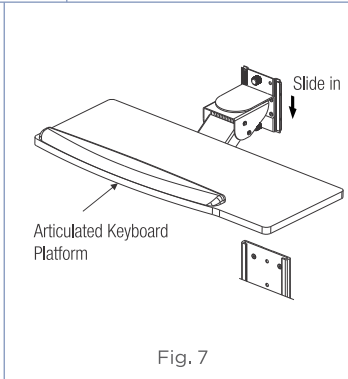

Fig. 7
7. Slide in the Articulated Keyboard Station into the vertical track as shown in Fig. 7 & tighten the locking knob.